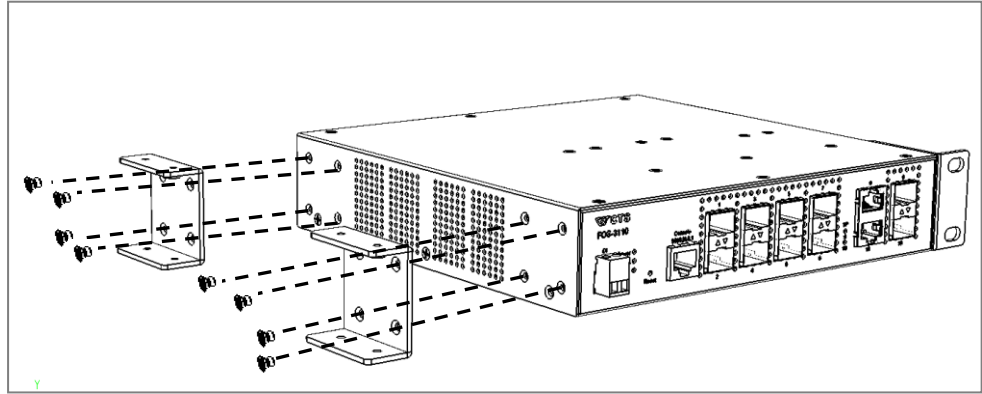

Figure 2-3. Install the L-shaped fixed pieces in the reverse direction for two-switch mounting
- 2.4.** On the left side of the switch, attach one L-shaped fixed piece in the reverse direction by inserting the screws provided in the FOS combine kit through this fixed piece and into the mounting holes in the switch. (See Figure 2-3)
- 2.5.** Repeat the same manners as we had mentioned in Step 2.4 to install another L-shaped fixed piece on the same side of the switch. (See Figure 2-3)